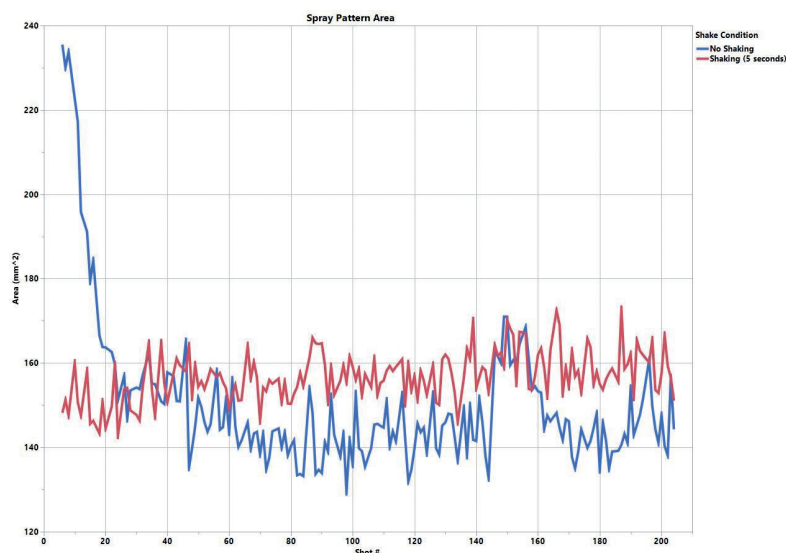

Figure 3: Effect of shaking on spray pattern area over the life of the product.
The same effect as described above was observed when spray pattern (SP) area was measured using Proveris' Sprayview[®] measurement system over the entire life of the device (Figure 3). Initial high SP area followed by a steep drop was observed for the “no shaking” condition. In comparison, a more uniform SP area was seen for the five-second shake duration.